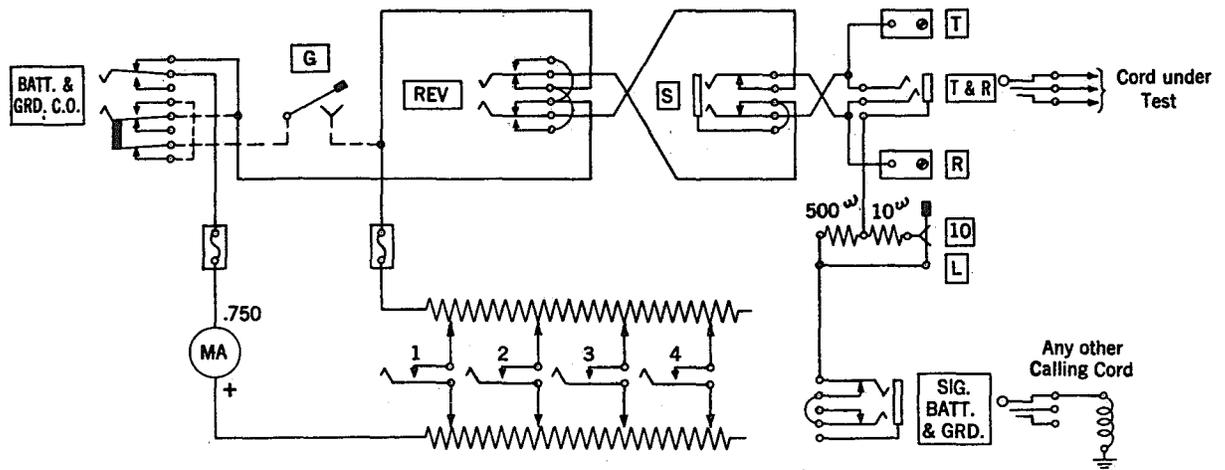

Fig. 1 - Manual Flashing Test.
3.03 If the manual flashing method is to be used, insert the plug of an idle calling cord into the SIGNAL BATT & GRD jack. See Fig. 1.